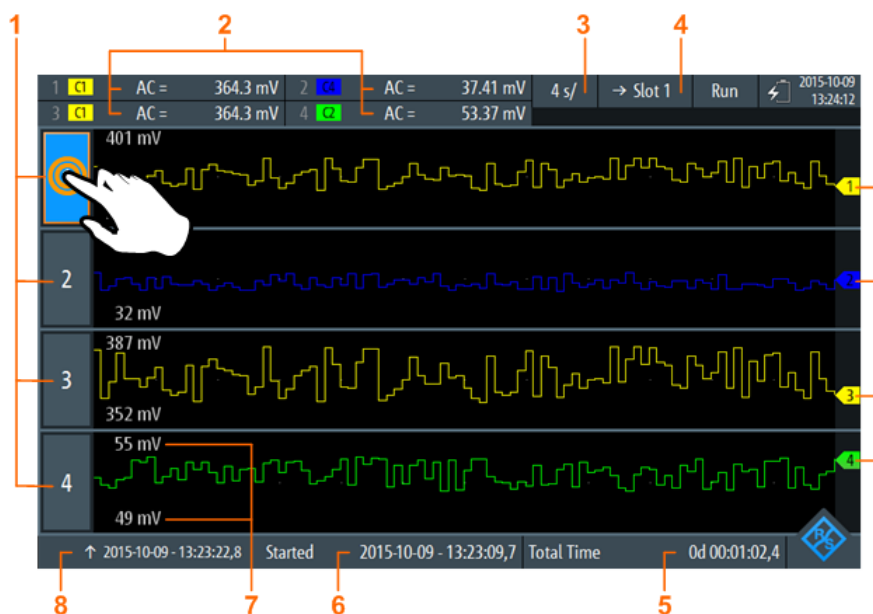

Figure 6-1: Logger display, view of all logged scope measurements
- Tap on one of the logged measurements as shown in Figure 6-1.